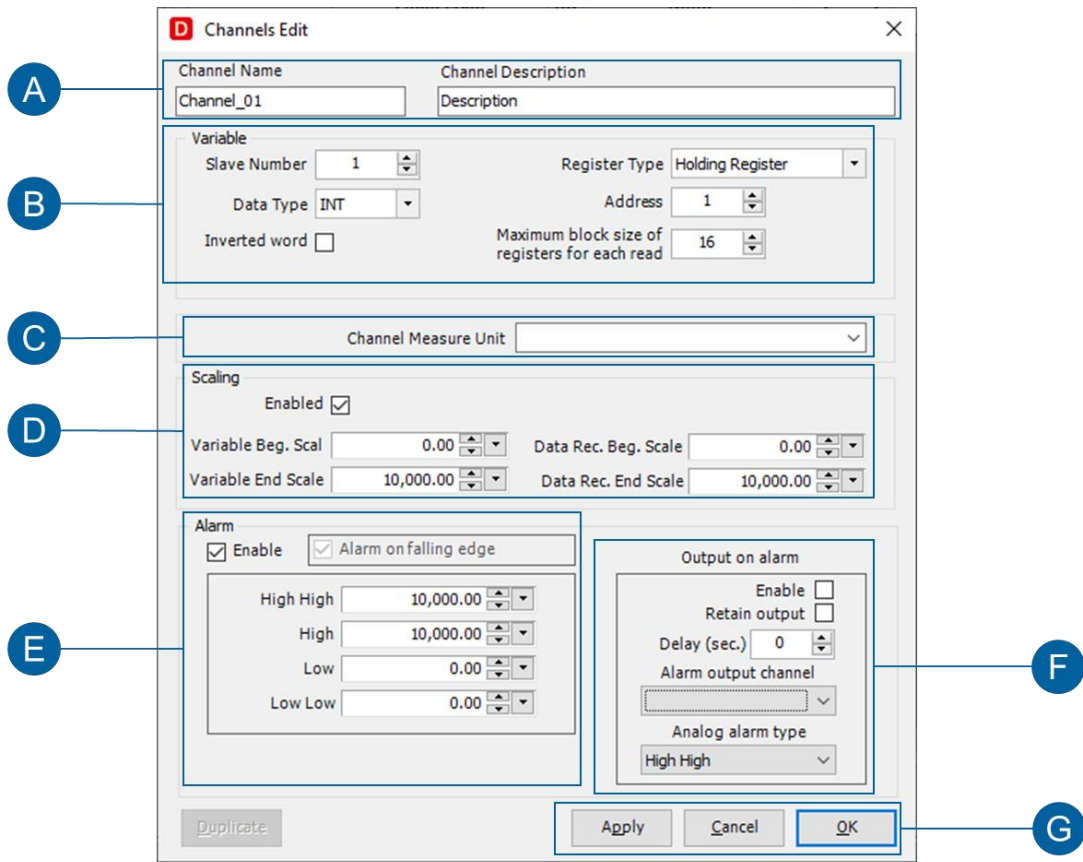

Figure 33. "Edit channels" pop-up
A	<p>List of channels associated with the project For each channel from left to right there is the "IP address or COM port" relating to the project from which the channel was imported, the tick "Save to database" (EN) enabled by default the "Name" assigned to the variable, which is the name that is then used within the software for that channel, the tick "Calculated channel", which cannot be changed, indicating whether the channel comes from a direct reading or if it is a channel created from a combination of other channels; the "unit of measurement", the "Start of Data Rec Scale.", the Data Rec. Full Scale " If set, the "M" and "Q" calculated during any channel calibration on the "Calibration (4.12 “Calibration” page - page 45) page and any "Description" of the channel. Channel changes can only be done with the system disconnected (by clicking on the appropriate button in the global commands (Figure 18 on page 25), or by using the appropriate buttons in the “Online” submenu. With a single click on "Save to database", the saving of the values of that channel to the database in case of recording is disabled; a single click on "Unit of measurement" brings up an arrow that opens the drop-down menu from which you can select the unit of measurement to be assigned to the channel; a single click on the "Start of Data Rec. Scale", Data Rec Full Scale. " and "Description" allow you to write in these fields. A double click on any point of the line relating to a channel (with the exception of the "Save to database" column) opens the "Edit channels" pop-up (Figure 33 on page 41) in which it is possible to modify all the parameters relating to the selected channel.</p> <p>With a single click on "Writable Channel" the variable to be written is enabled and will appear in the window dedicated to writing (4.11 “Writings” page - page 44)</p> <p>NOTE: EN enables the modbus communication (data acquisition) and the database recording</p>
B	<p>The “Add a Channel” button allows you to add one channel at a time and opens a pop-up where you can enter the characteristic information or select the channel from the associated Z-NET4 project. In this last case, a second pop-up opens in which to select the module and then the channel to import</p> <p>The button "Import channels from Z-NET Project (all the variables of one or more modules)" allows you to simultaneously add all the channels of one or more modules associated with the Z-NET4 project.</p> <p>The button "Import channels from Z-NET Project (one or more variables of a module)" allows you to select which channels, associated with the Z-NET4 project, you want to import into the project.</p> <p>The "Add Calculated Channel" button opens the "Edit Calculated Channel" pop-up (Figure 33 on page 41) and allows you to create a channel calculated as a combination of other already imported channels.</p>